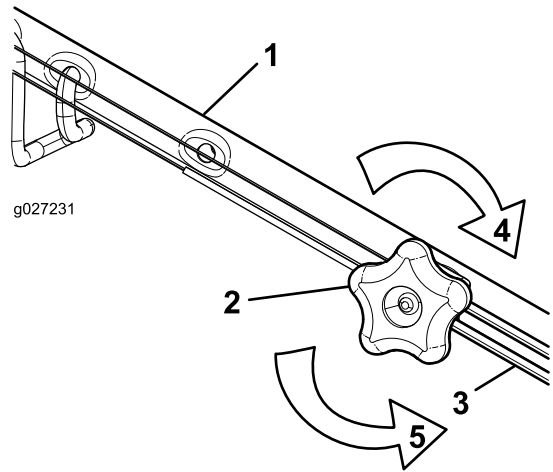

Figure 47
- Turn the adjustment knob counterclockwise to loosen the cable adjustment (Figure 47).
- Adjust the tension on the cable (Figure 47) by pulling it back or pushing it forward and holding that position.